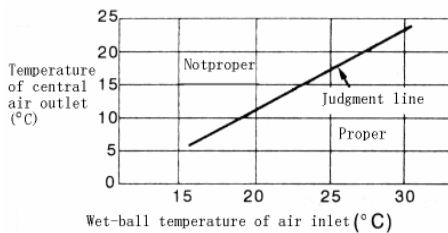

Fig.21-15
- (11) After the temperature of air outlet is stable (operating A/C for 10~15 minutes), measure the temperatures of air outlet and air inlet.
- (12) Draw a point using the readings in step 11 on below figure; it is proper if the point is below the judgment line. (See fig 21-15)
TEMPERATURE DAMPER CABLE CONNECTION(See Fig21-15)